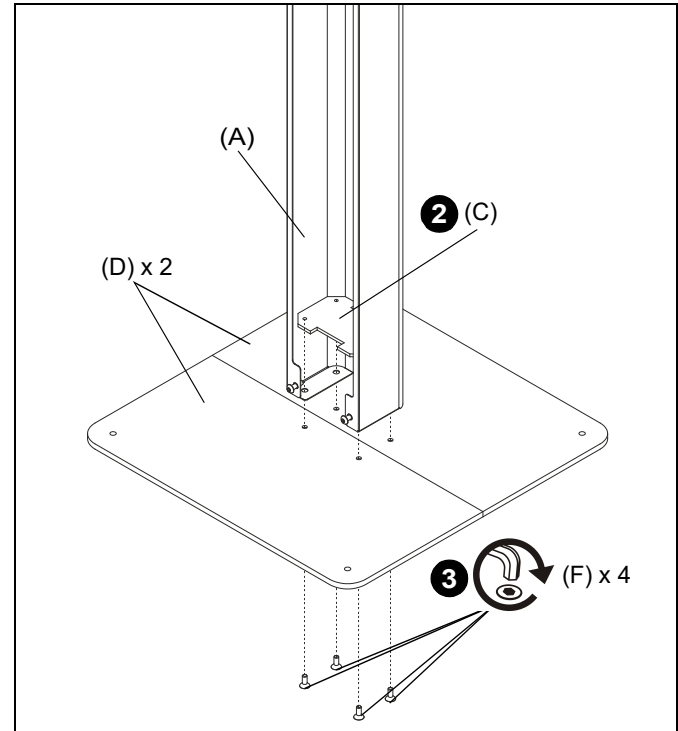

Figure 2
2. Install bolt plate (C) inside column (A) channel. (See Figure 2)
3. Use four #10-24 x 1/2" flat head cap screws (F) to secure two base plates (D) to column (A) and bolt plate (C). (See Figure 2)